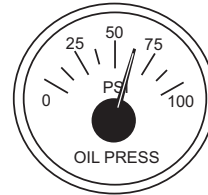

Figure 12. Oil Pressure Gauge
9. The **engine oil pressure gauge** (Figure 12) will indicate the oil pressure of the engine. Under normal operating conditions the oil pressure should be between 42.1 and 85.6 psi (290–590 kPa). When starting the generator the oil pressure may read a little higher, but after the engine warms up the oil pressure should return to the correct pressure range.